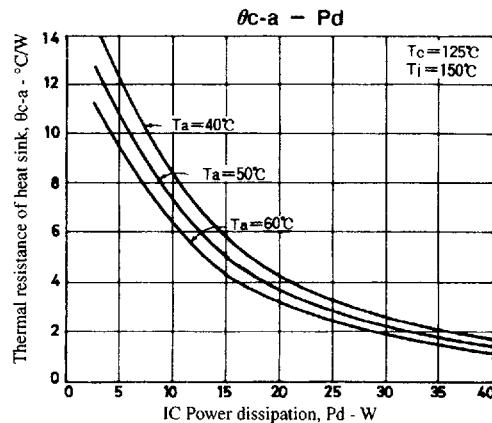

Figure 3. STK4026V $\theta_{c-a} - P_d$
Figure 3 shows the relation between P_d and θ_{c-a} given from (1) and (3) with T_a as a parameter.
The thermal resistance of a heat sink is obtained from Figure 3.